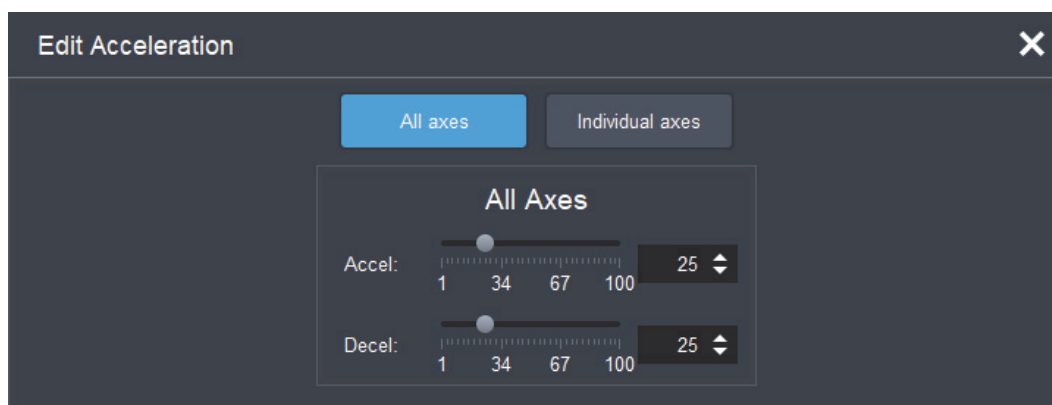

Figure 23 - Edit Acceleration dialog box (all axes)
- d. Tap the **All Axes** button, and then specify the default acceleration rate (**Accel**) and the default deceleration rate (**Decel**) for all axes (pan, tilt, zoom, and focus). See Figure 23.